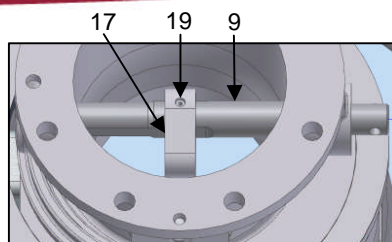

Fig. 15
13. Use a hammer and punch to remove roll pin (19) to free link (17) on shaft. Slide shaft (9) out of Body and link off shaft. (See Fig. 15)